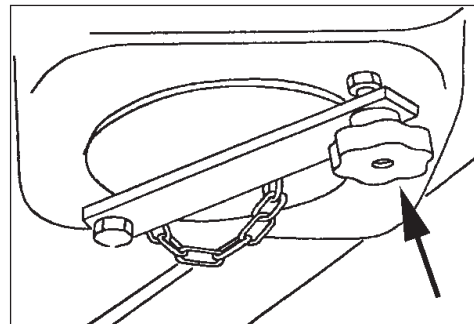

Figure 46
4. Open the lower cleaning port cover by unscrewing the knob and rotating the clamping bar (see figure 46).